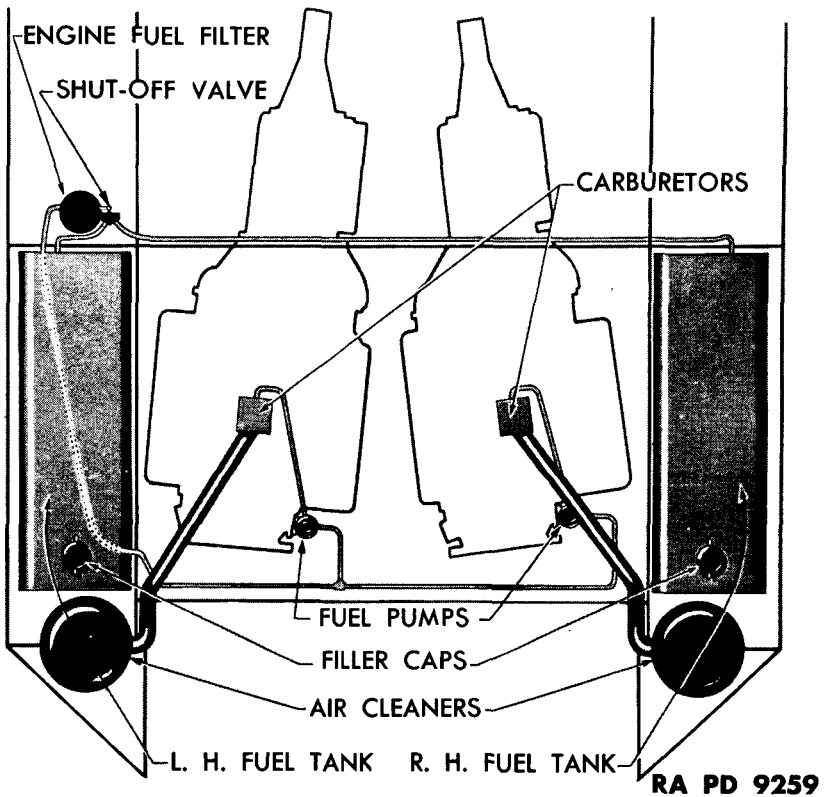

Figure 74 – Fuel System
(1) The fuel system consists of two fuel tanks located in the sponsons just behind the bulkhead. A fuel line runs from the front of each tank to the main fuel filter on the left front of the bulkhead. The first type filter has a shut-off valve for each line, whereas the second type filter (fig. 74) has a combination shut-off valve. From the filter the gasoline feed line runs through the left-hand tank as shown, and out across the radiator support bracket. From here a line goes down to each fuel pump and thence up to each carburetor.
(2) Air for the engines is drawn from the fighting compartment through openings in the bulkhead leading to the fuel tank compartments. It cools the tanks in passing around them to the air cleaners which are located at the extreme rear of the sponsons. From the cleaners, the air passes through outlet elbows and hoses to the carburetors.